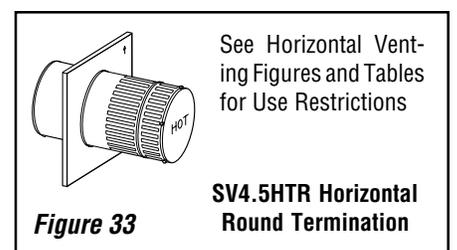

Figure 33
2. Install the round termination (SV4.5HTR) - See **Figure 33** for an illustration of the round termination.